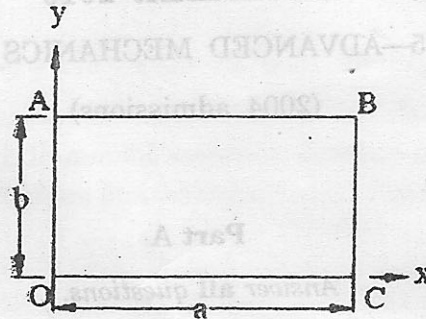

Fig. 1.
- III. (a) Consider a rectangle plate with sides  $a$  and  $b$  of thickness " $t$ " as shown in Fig. 1. (i) Determine the stresses  $\sigma_x$ ,  $\sigma_y$  and  $\tau_{xy}$  for the stress function  $\phi = c_1 x^3 y$ , where  $c_1$  is a constant ; (ii) Draw a sketch showing the boundary stresses on the plate and find the resultant normal and shearing boundary forces on each of the faces.